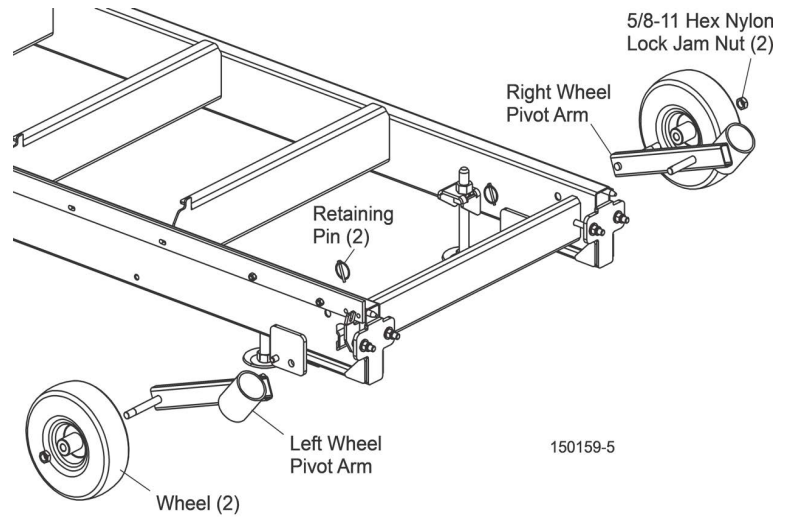

FIG. 1-5
10. Install a wheel to each pivot arm and secure with a 5/8-11 hex nylon lock jam nut. See Fig. 1-5.